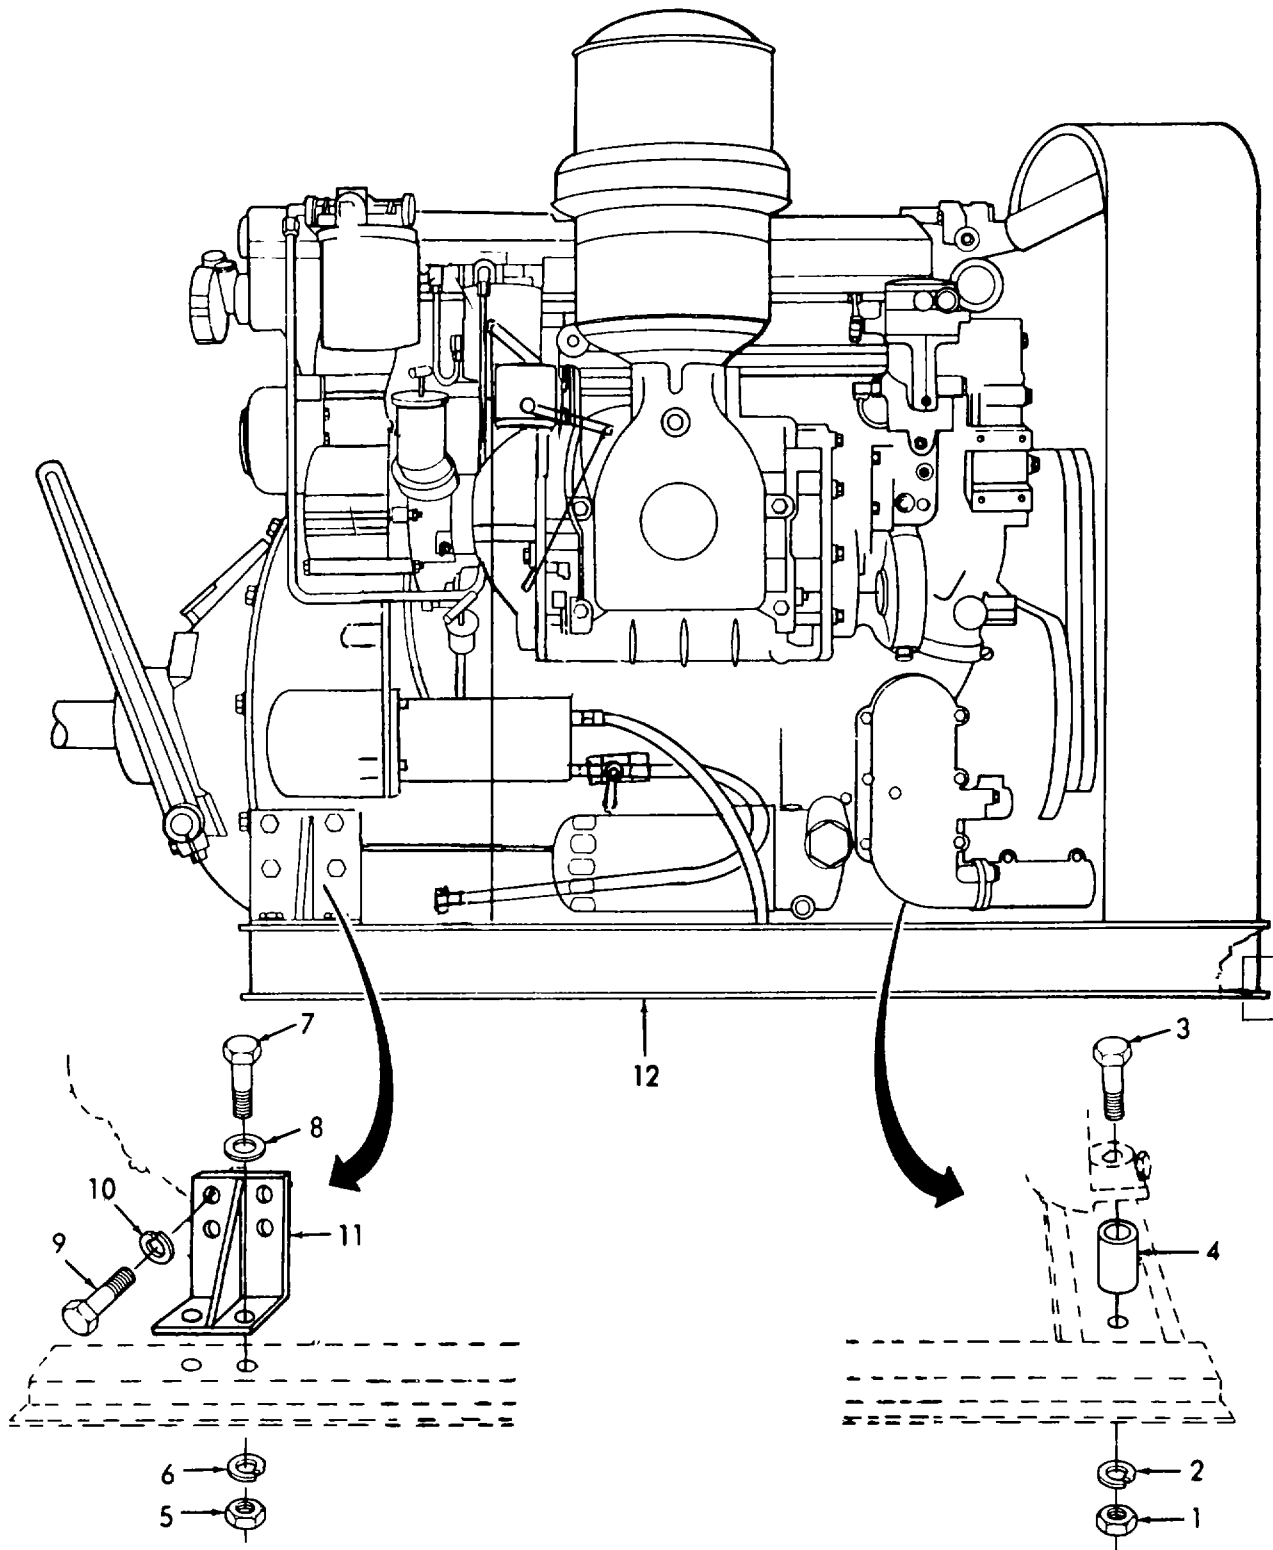

Figure 3-15. Diesel Engine, Removal/Installation.
**3-15. ENGINE, DIESEL - Continued.**a. Removal. (Refer to figure 3-15).
- (1) The size of the machinery house door will allow entry of a suitable lifting device to aid in the removal of the engine.
- (2) Keeping in mind that the engine will have to be rotated to remove it through the door, connect a spreader bar with a suitable sling and adequate chain hoist to the engine lifter brackets. To prevent binding of the engine lifter brackets the lifting device should be adjusted so the lifting hooks are vertical. To ensure proper weight distribution, all engine lifter brackets should be used to lift the engine.
- (3) Remove two front engine mounting nuts (1), two lockwashers (2), two bolts (3), and two spacers (4).
- (4) Remove four nuts (5), four lockwashers (6), four bolts (7), and four flat washers (8) securing the rear engine support to the frame.
- (5) Remove eight screws (9) and eight lockwashers (10) securing the two rear engine supports (11) to engine (12).
- (6) Lift the engine off the frame and remove from the machinery house.